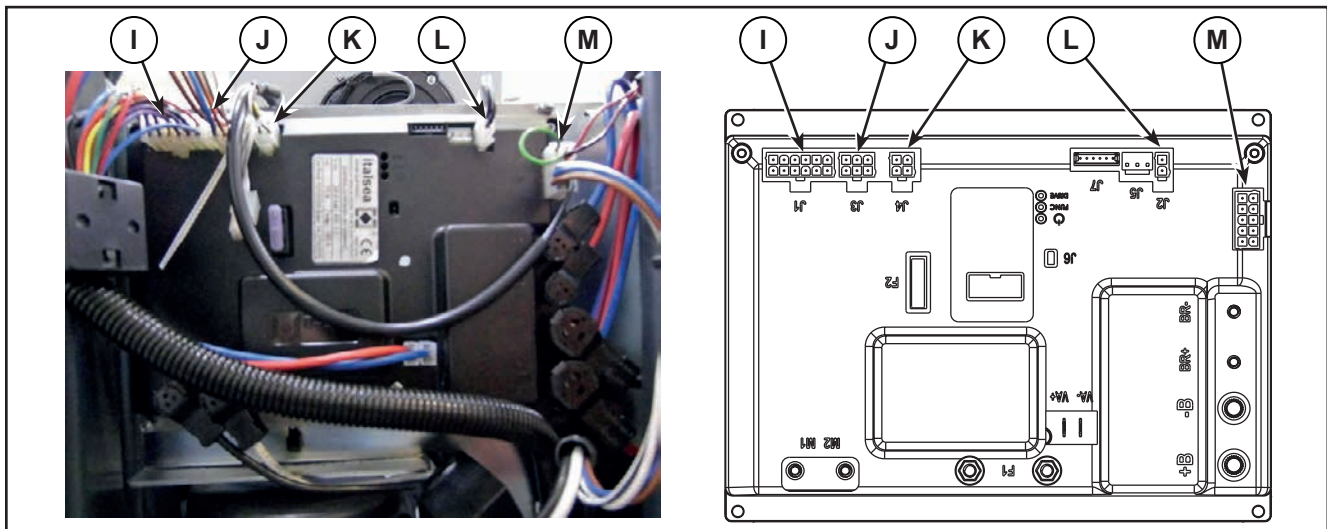

Figure 14:
9. Unscrew the 4 retaining screws (N) and carefully remove the Main machine controller (Figure 14).